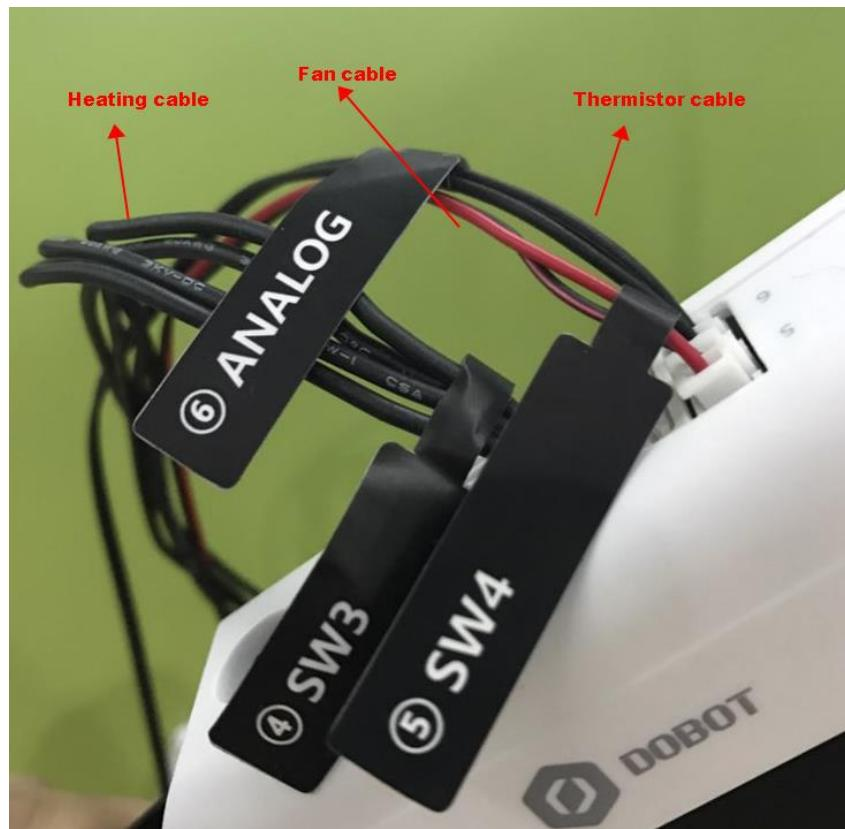

Figure 5.123 Connect hot end to the Forearm
**Step 5** Insert the heating cable to the interface **4** on the Forearm, the fan cable to the interface **5** and the thermistor cable to the interface **6**, as shown in Figure 5.123.